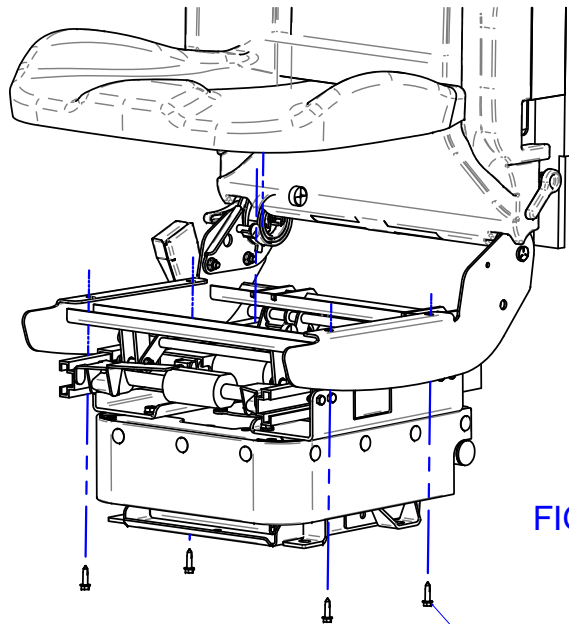

FIG. 2
5. REMOVE (4) 1/4"-14 SCREWS FROM CUSHION ASSEMBLY AND RETAIN. (FIG. 2)